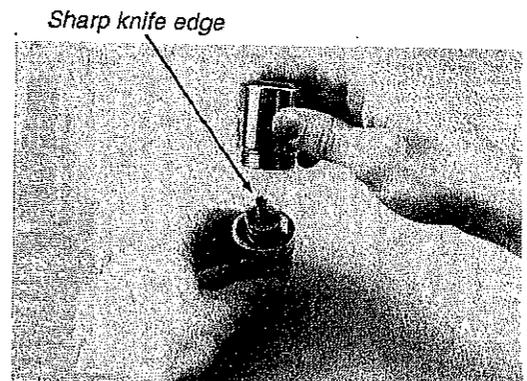

Fig. 4A
8. Using internal circlip pliers, remove the circlip(4) that retains the cone filter(5). The cone filter is now accessible, and should drop out freely in your hand. Discard, and DO NOT attempt to reuse. The filter o-ring(6) is now accessible. Remove and inspect for any signs of decay. Discard if found.
10. Rotate the main body and the piston cap in opposite directions to separate, with the main body facing up vertically. Lift the main body straight up and off the shaft of the piston(32) to avoid any angular pressure that might damage the delicate edge of the piston shaft. (See fig. 4A.) Set the piston cap aside, standing on the swivel, with the piston shaft exposed and facing up.